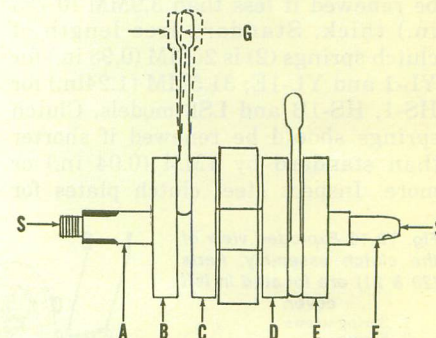

Fig. Y2-15—Refer to text for checking crankshaft for correct assembly or wear.
CONNECTING RODS AND CRANKSHAFT. The crankcase halves must be separated to remove the crankshaft. Connecting rods, crankpins, rod bearings and the center main bearings are removed by pressing the crankshaft apart. The crankshaft should be disassembled **ONLY** if required tools are available to correctly check and align the reassembled crankshaft. If side shake (G—Fig. Y2-15) at piston pin end of connecting rod end exceeds 2MM (0.08 in.), the connecting rod, crankpin and lower bearing should be renewed. Shake (G) should be 0.8-1.0MM (0.032-0.039 in.). Side clearance of connecting rod between the crankshaft counter weights can be measured with a feeler gage. Side clearance should be 0.1-0.3MM
(0.0039-0.012 in.). With crankshaft supported between lathe centers (S—Fig. Y2-15), maximum eccentricity when measured with dial indicator at points (A,B,C,D,E, & F) should not exceed 0.02MM (0.0008 in.).